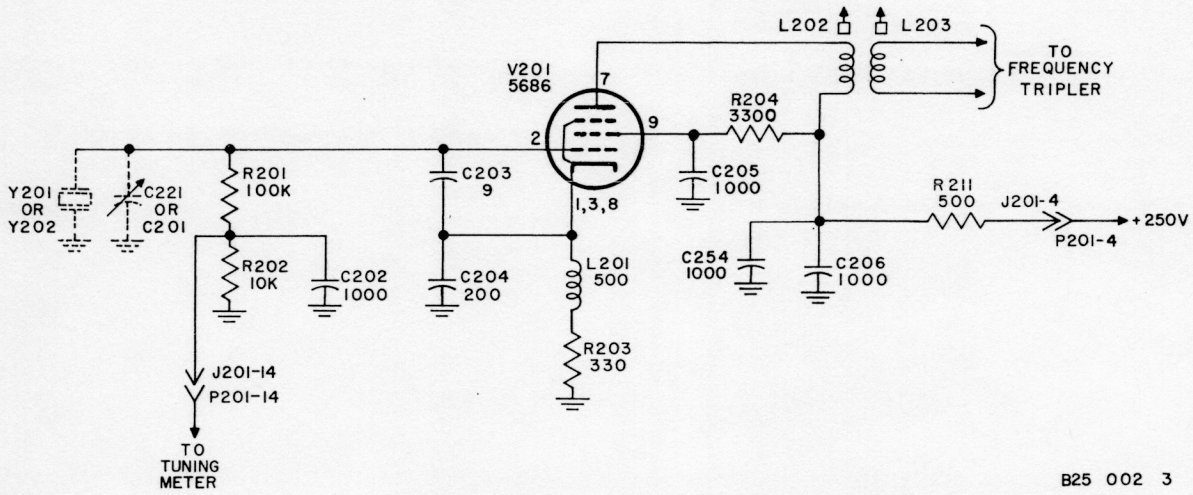

Figure 4-2A. Oscillator Frequency Doubler, Simplified Schematic Diagram
a. OSCILLATOR-FREQUENCY DOUBLER. - (Refer to figure 4-2A.) The oscillator uses the cathode, grid, and screen of V201, a type 5686 pentode, connected in a modified Colpitts-type circuit. The screen, serving as the plate of a triode, is held at r-f ground by C205. The crystal is connected between the grid and ground or, effectively, between the grid and screen. Feedback is provided by C203, connected between the cathode and grid. R202 is connected in series with grid leak resistor R201 to provide an indication of the oscillator grid current for the tuning meter.